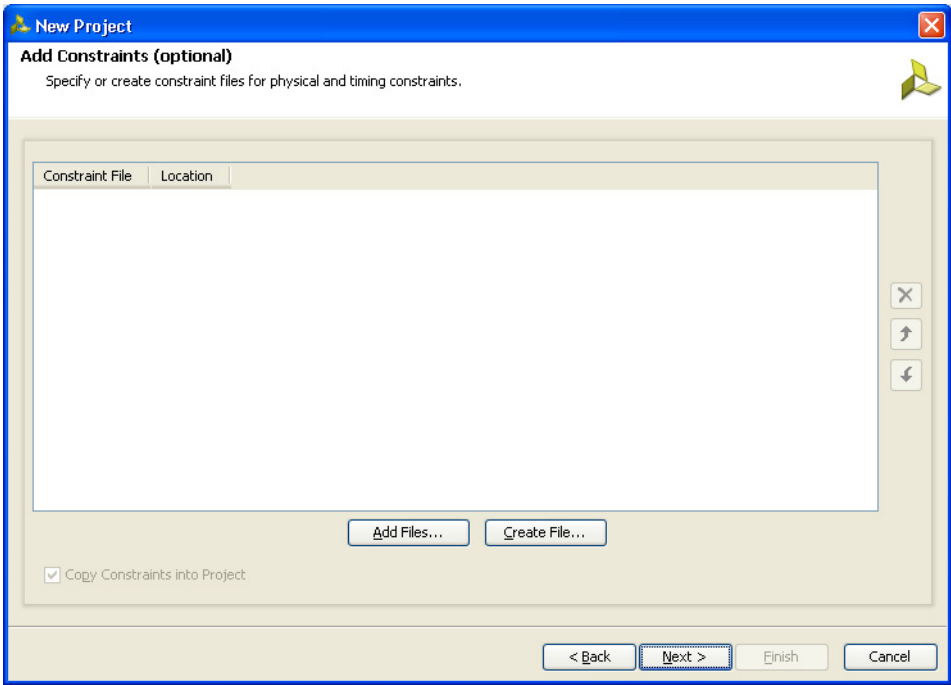

Figure 4-7: Add Constraints (Optional)
7. Click **Next** to open the Add Constraints (Optional) page (Figure 4-7). If the constraints file exists in the repository, it can be added to the project. Proceed to the next page if the constraints file does not exist.